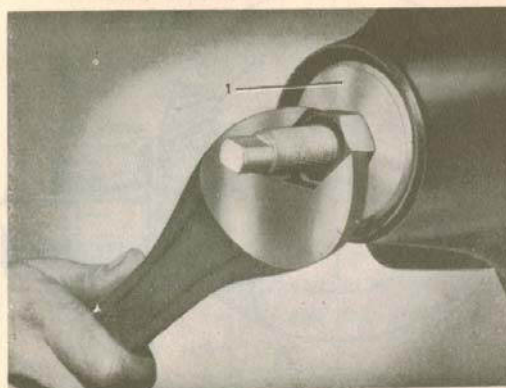

Fig. 5-21. Fitting the bearing races
3. Replace the number of shims (30) for the rear pinion bearing outer race which were there before disassembly in the casing and then press in the outer races with the help of tool SVO 4047, see Fig. 5-21.